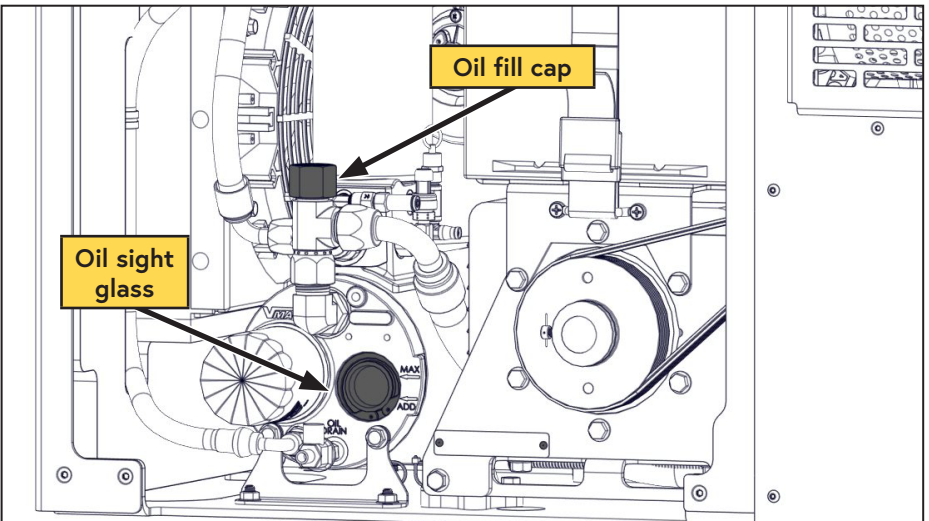

Figure 32 — Fill oil
- Remove the oil fill cap (Figure 32).